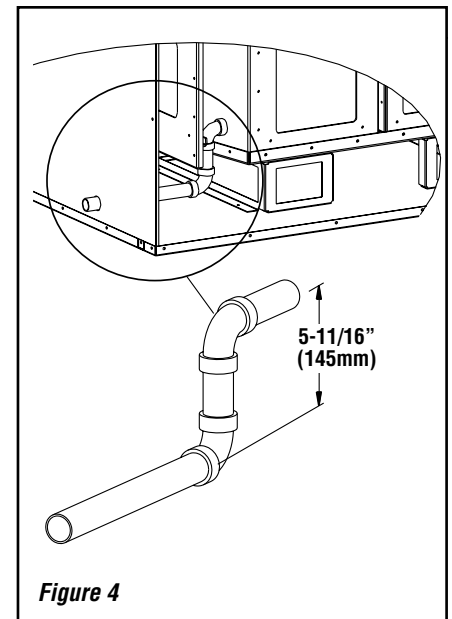

Figure 4
3. Assemble a rigid 3/8" N.P.T. iron pipe with two 90° elbows. Make sure to have 5-11/16" clearance between the two pipes (see **Figure 4**).